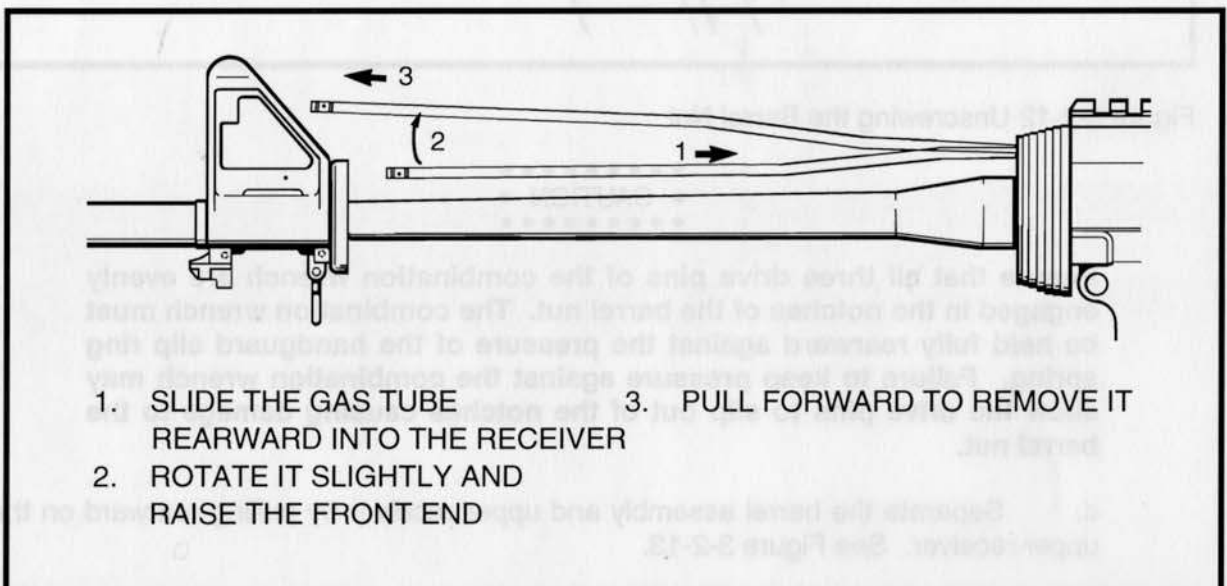

Figure 3-2-11 Removing the Gas Tube
- (2) See Figure 3-2-11. Slide the gas tube rearward into the receiver (1); rotate it slightly and raise the front end (2); and pull forward to remove it (3).